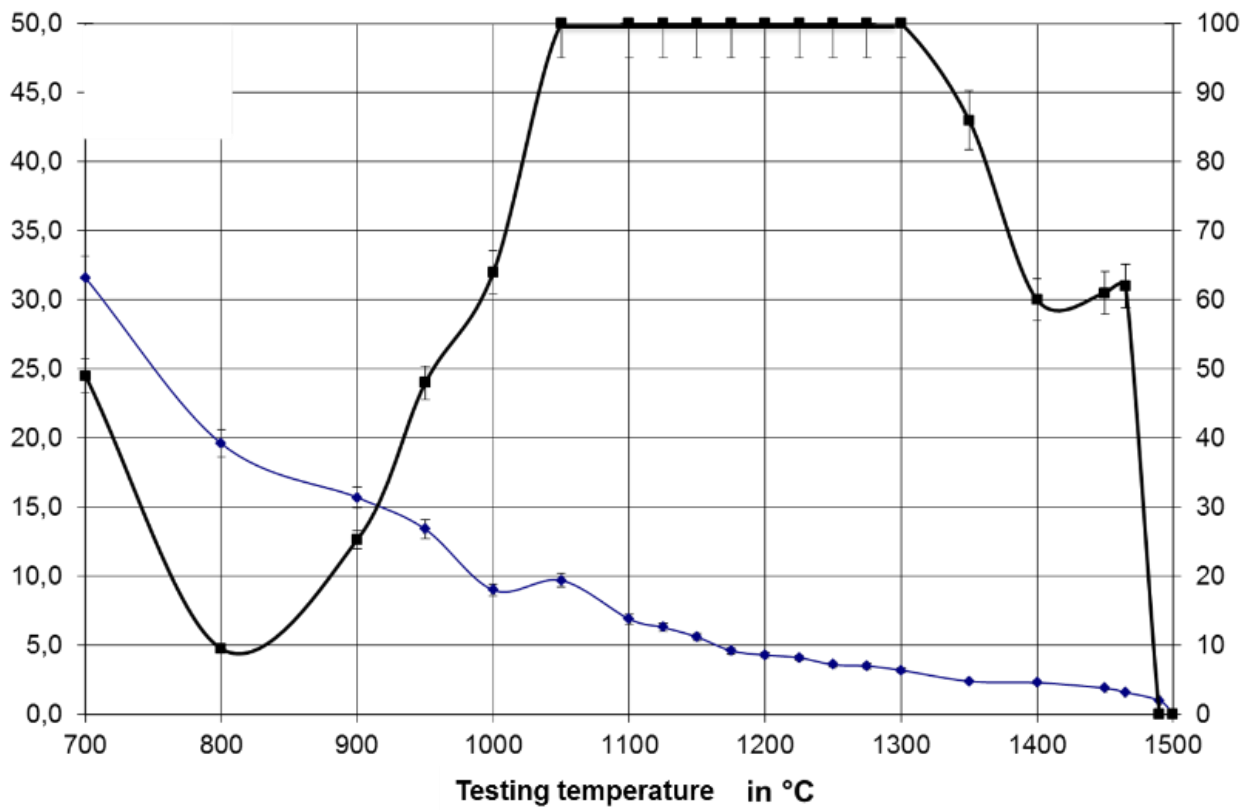
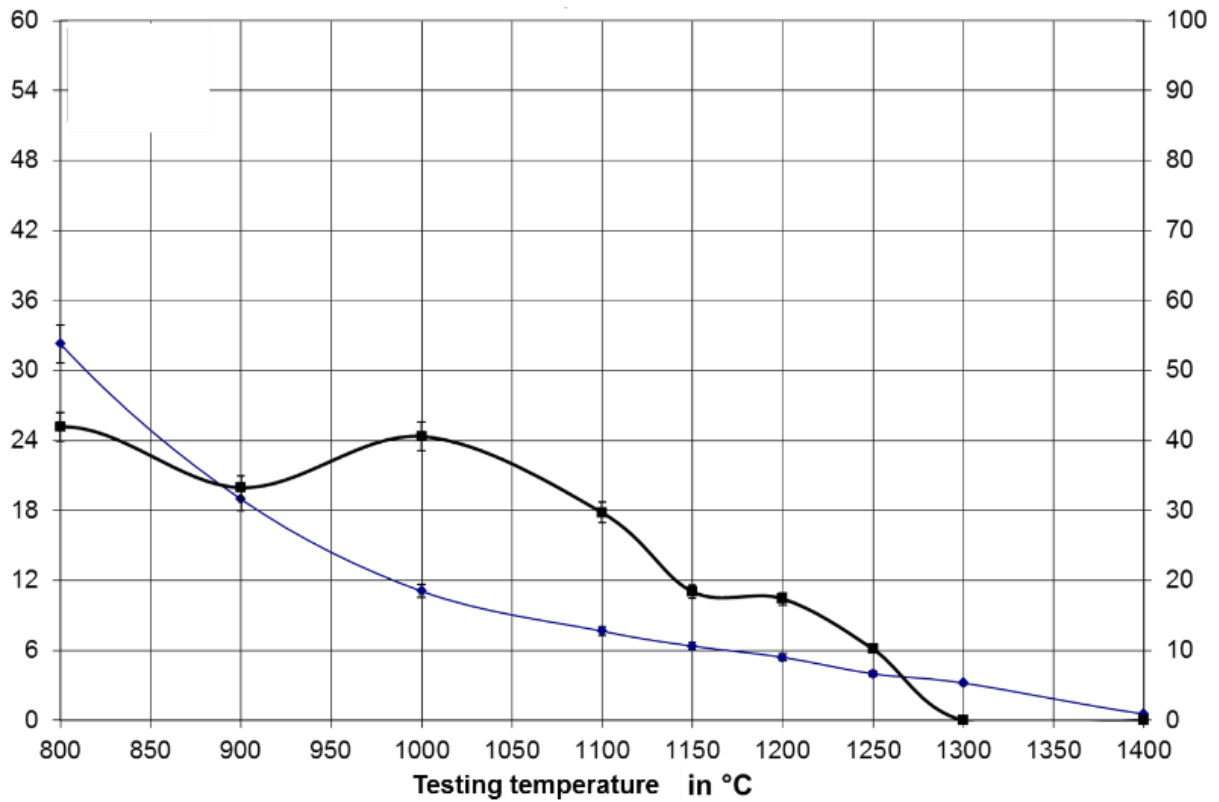

Figure 1: Material A
Figure 2: Material B
- a) Figure 1 and Figure 2 show the mechanical properties as a function of the testing temperature determined from several hot tensile tests for two different steels. Label both Y-Axes for both figures. Which material is more suitable for strip casting? Explain your choice briefly. (3 Point)